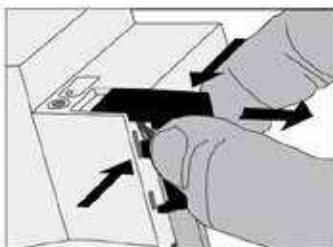

Figure 7: Removing the cover
- Press the cover to the side and pull it off (Figure 7).